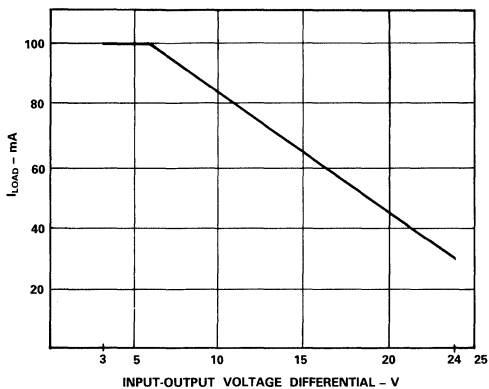
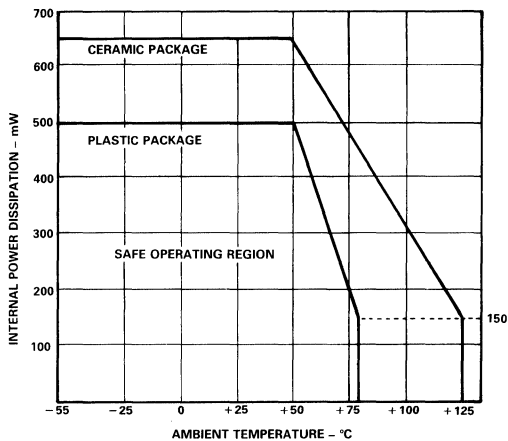

Figure 13. Excitation Source Input - Output Voltage Differential vs. Load Current; Ambient Temperature  $\leq 25^{\circ}$ C.
Figure 14. Excitation Source Internal Power Dissipation vs. Temperature
**Bridge Excitation:** The adjustable bridge excitation is specified over a wide regulator input voltage range (+9.5V to +28V). Maximum load current  $I_L$  as a function of regulator input-output differential voltage is shown in Figure 13. The maximum output current also depends on ambient temperature and above 50 $^{\circ}$ C a derating factor should be derived from Figure 14.